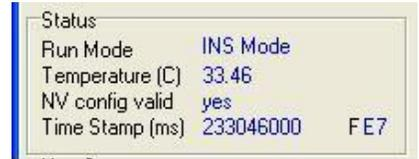

Figure 3. Status Section
4.3 Status - The Status section displays the current status of the MIDG Series INS/GPS including; Run Mode, Temperature, Non-Volatile Fram Configuration (NV Config) status, and the current Time Stamp (Figure 3). The message ID for the Status message is "1." Each piece of information is detailed below.